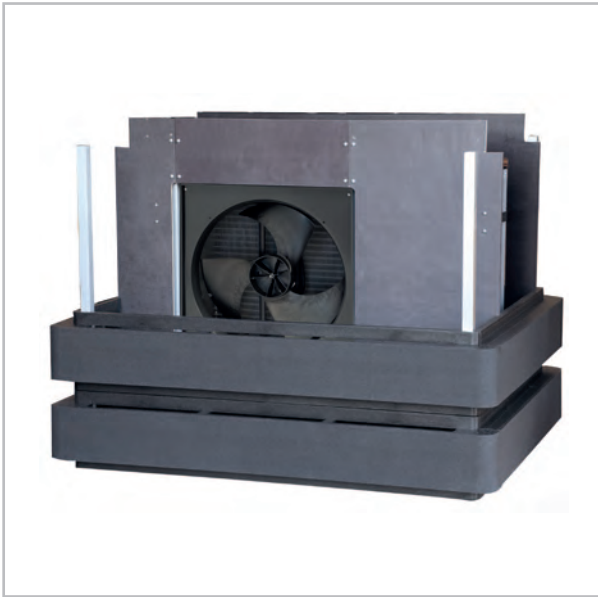

Fig. 27
- 16.** After it has been installed, as shown in Fig. 27, the baffle plate is horizontal in the noise protection hood, directly in front of and tight to the outdoor unit.